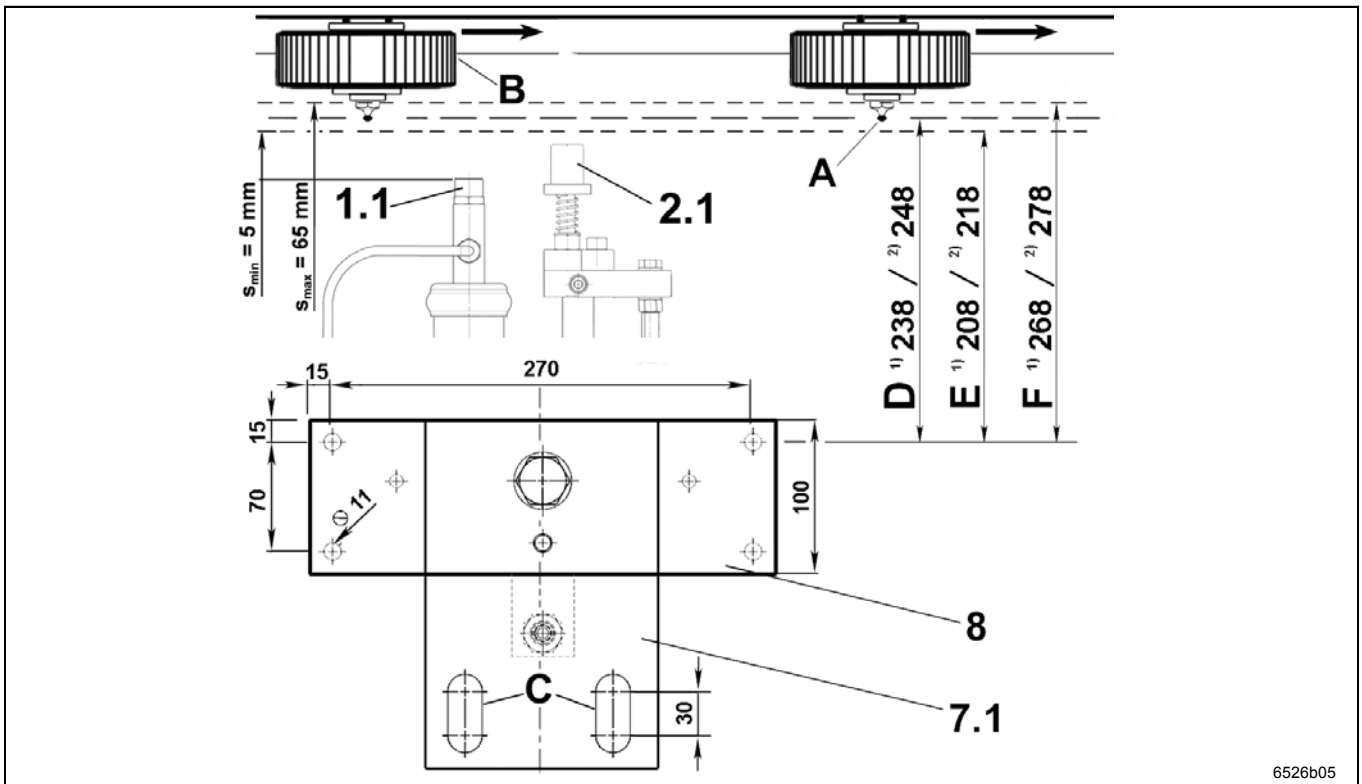

Fig. 5 Assembly of the COBRA 1X-2 ⁽¹⁾ nozzle for hydraulic lubrication fitting/ ⁽²⁾ flush coupler)
- Prepare a holding construction with sufficient stability for fixing four screws M10 (see page 11, fig. 5: hole pitches 270 x 70mm), where the mounting plate can be attached to (page 6, fig. 1, pos. 8).
- Determine the distance between the hole pattern of the mounting plate and the lubrication fitting. Therefore, keep a horizontal distance at a centered positioning in the oblong holes C between L_{min} and L_{max} (see page 11, fig. 5). In the off-position the distance between the transport chain and the next parts of the COBRA 1X-2 (lubrication head and pick-up rollers) must be that big that even in case of a maximum variation of the transport chain there will not occur any collision.
- Separate the mounting and slewing plate (fig. 5, pos. 7.1 and 8) from the COBRA 1X-2.
- Fix the mounting plate (pos. 8) with four fastening screws M10 to the holding construction (see page 9, chapter "Layout of the holding construction").
- Make sure that for execution of item 1 to 3 the COBRA 1X-2 is in off-position (see page 15).
- Put the threaded rod M20 (see page 30, pos. 4.4) of the COBRA 1X-2 back into the oblong holes (pos. C) of the slewing plate (pos. 7.1).
- Tighten the fastening screws M20 (pos. 4.5) slightly.
- Place the nozzle coupler (pos. 1.1) respectively the axis of the lubrication head (pos. 1) horizontally to the height of the lubrication fitting (pos. A). To do so, use the thread pitch of the threaded rods M20 (pos. 4.4) in combination with fastening nuts M20 (pos. 4.5).
Even in case of the maximum horizontal chain roller variation, the distance s_{max} must not be more than 65 mm (see fig. 5).